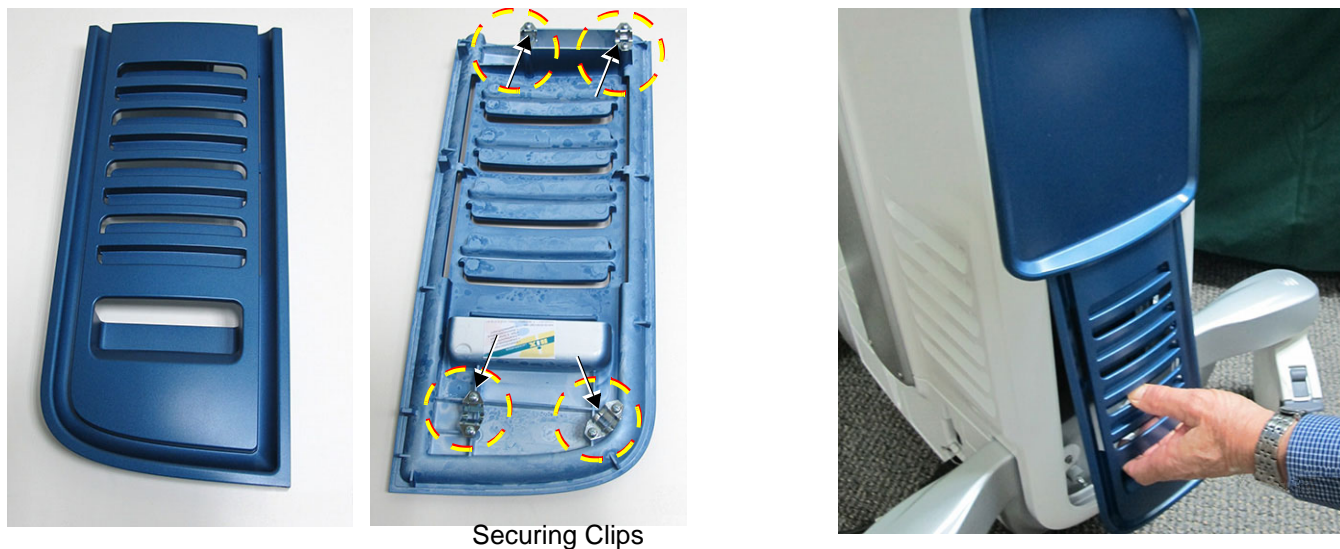

Figure 8-5 Removing the Right Side Cover
- 1) Gripping the recess at the bottom of the cover pull the right side cover out towards you to release it from the snap-lock securing clips (Figure 8-5).
Note: The removal and installation procedures for all the peripheral device covers are all very similar. The various covers clip onto the mechanical platform with 4 snap-lock securing clips on the inner side of the cover - the clips are like those illustrated in Figure 8-5 on page 8-10.